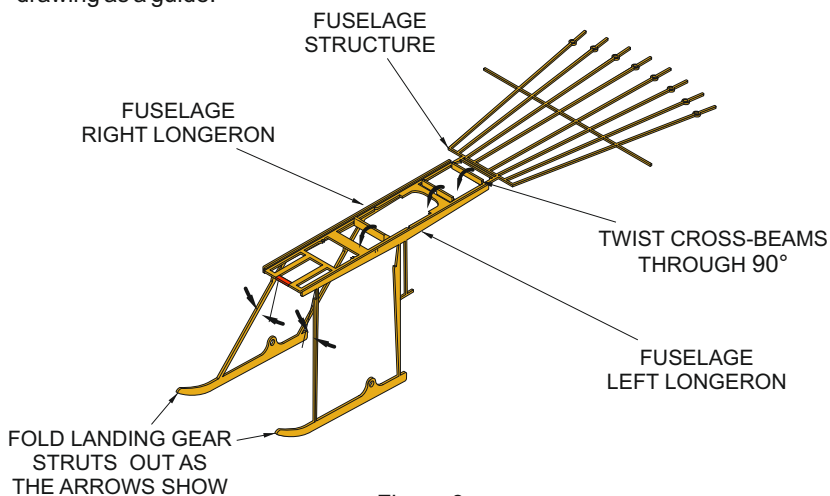

Figure 3
2 ASSEMBLE THE FUSELAGE PRIMARY STRUCTURE (see Figure 3)
- E Fold the struts of the landing gear out - use the arrows in figure 3 and the three view drawing as a guide.